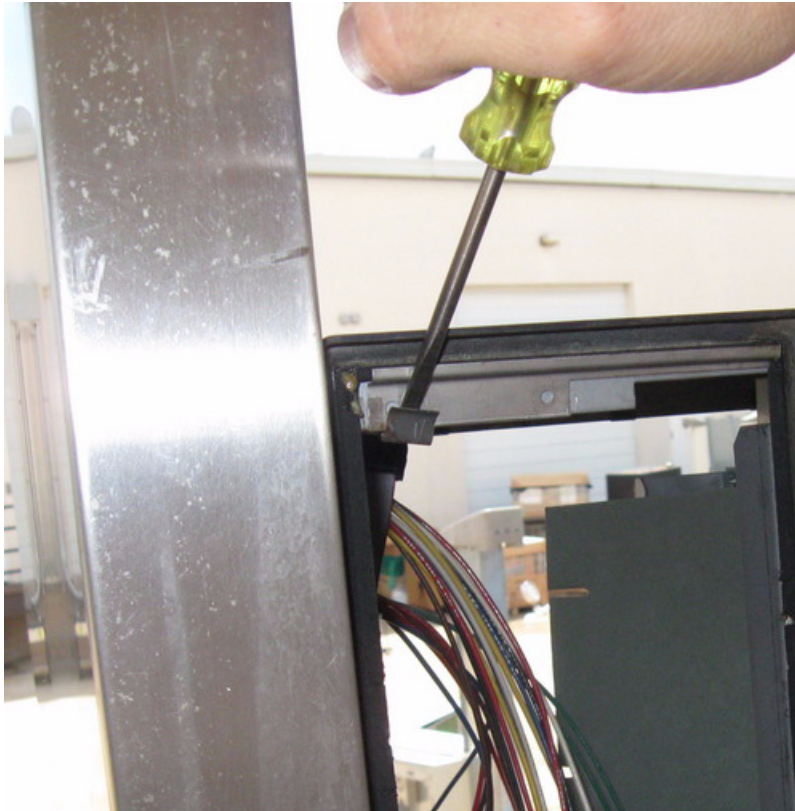

FIGURE 6
7. Remove (2) clips and remove small striking plate at top of graphics display/keypad door frame and at top of printer door frame. Discard all the parts. Fig 6.